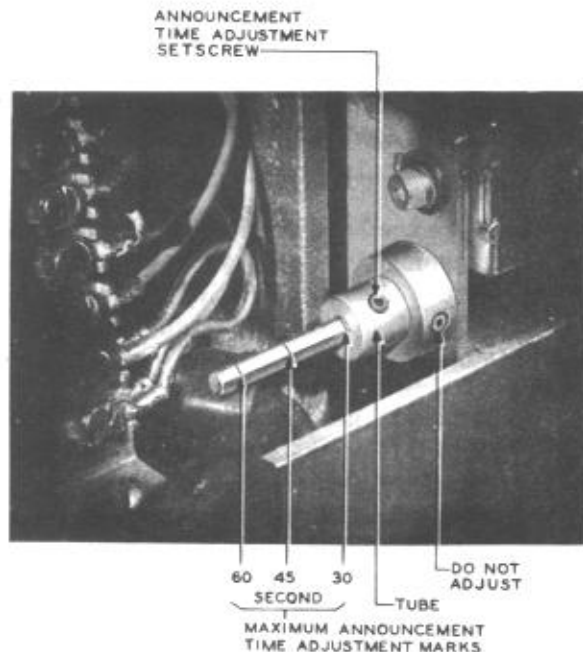

Fig. 11 — Adjustable Mechanical Stop, Hex Head Setscrew, and Tube
6.02 To adjust the maximum announcement length, the following steps should be taken (see Fig. 11).